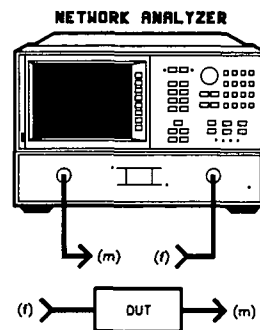

Figure 2. Test Port Cabling
2. Ensure that the system is properly cabled. Refer to Figure 2. Improper cabling may cause failure (especially with the 25Ω airline).